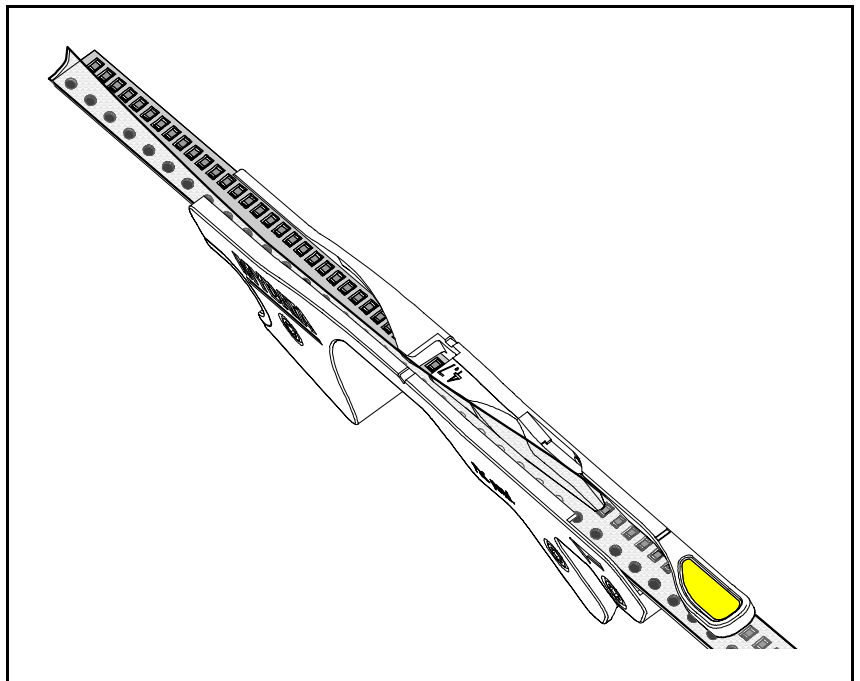

Figure 4-14. Pushing tape onto feeder
2. Keep pushing the component tape onto the feeder and the cover tape will open, see Figure 4-14.